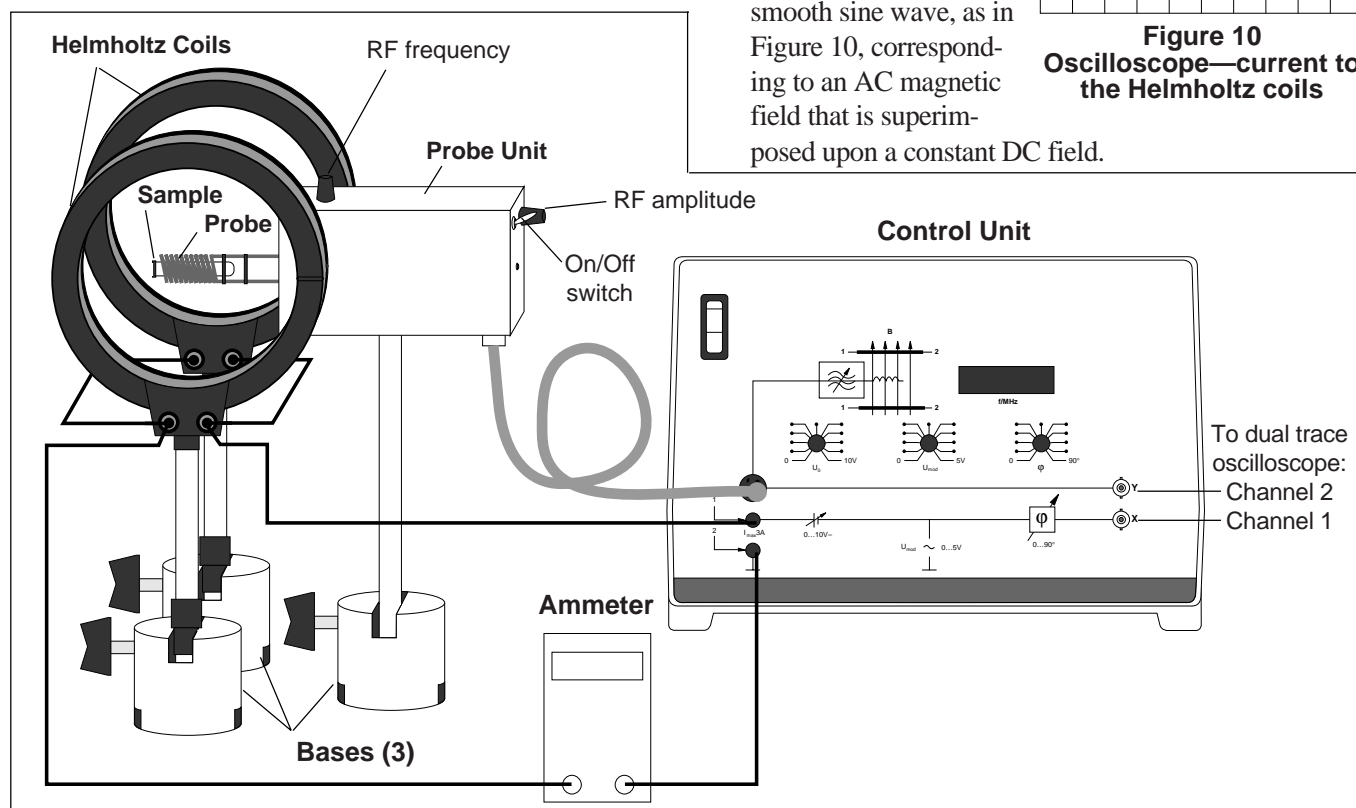

Figure 9 Setup using the Control Unit
- ① Connect the Helmholtz coils to the Control Unit, as shown in Figure 9. (The coils should be connected in parallel—terminal A to terminal A, and Z to Z.) Connect an ammeter in series, as shown, to monitor the current to the coils.
- ② Position the Helmholtz coils so that they are parallel and facing in the same direction, and their separation is equal to approximately one half their diameter.
- ③ Connect the X output of the Control Unit to channel 1 of a dual trace oscilloscope. Set the oscilloscope controls as follows:
- ⑦ Connect the Probe Unit to the Control Unit, as shown in Figure 9.
- ⑧ Plug the medium sized RF Probe into the Probe Unit, and insert the sample of DPPH into the coil of the probe.
- ⑨ Turn on the Probe Unit by flipping the On/Off switch to the up (I) position. Then turn the Amplitude knob on the Probe Unit to a medium setting.
- ⑩ The frequency meter on the Control Unit should now indicate the frequency of the RF oscillations. Adjust the Frequency control knob on the Probe Unit to produce an output of approximately 50 MHz.
- ⑪ Set U_{mod} to about the 4th position above zero (at about the 11 o'clock position).